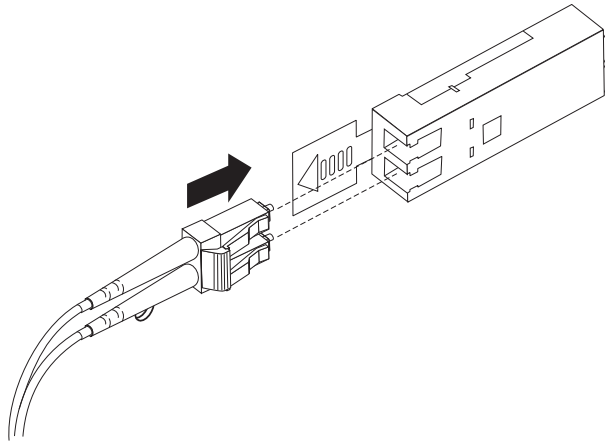

Figure 22. Inserting an LC-LC fibre-channel cable into an SFP module
4. Carefully insert this end of the LC-LC cable into an SFP module that is installed in the EXP5000. The cable connector is keyed to ensure it is inserted into the SFP module correctly. Holding the connector, push in the cable until it clicks into place, as shown in Figure 22 on page 37.